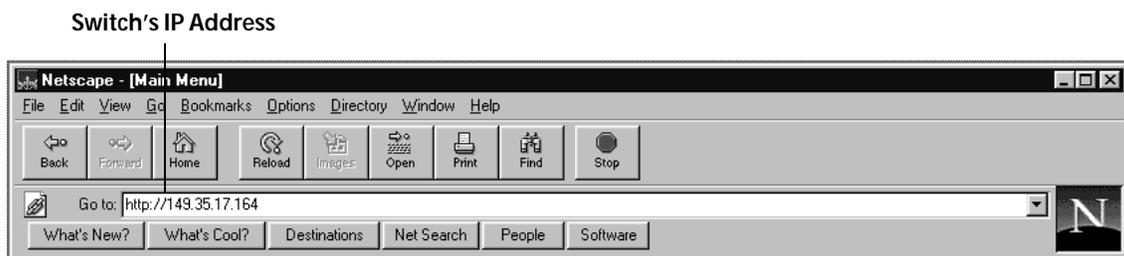

Figure 2 Entering a Switch's IP Address in the URL Field
2. Enter the IP address of the switch you want to manage in the URL field of the browser, as shown in Figure 2: